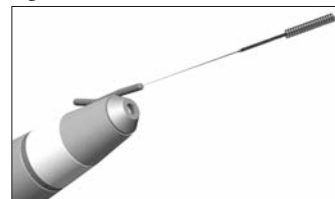
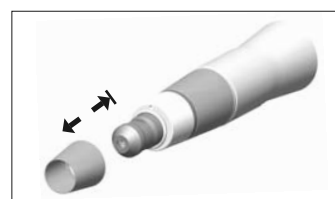

fig. 4
fig. 5
The spray tube, connects the hand-piece to the motor. The socket, which holds the spray tube, is detachable. A socket without tube, see option and fig. 5, can be fitted.
- Clean the spray tubes (if fitted) with the Bien-Air wire cleaning (fig. 4) and remove the sleeve and the clipped irrigation tube (if fitted) from the instrument (fig. 5).
- Reinstall the sleeve or the clipped tube (fig. 5).